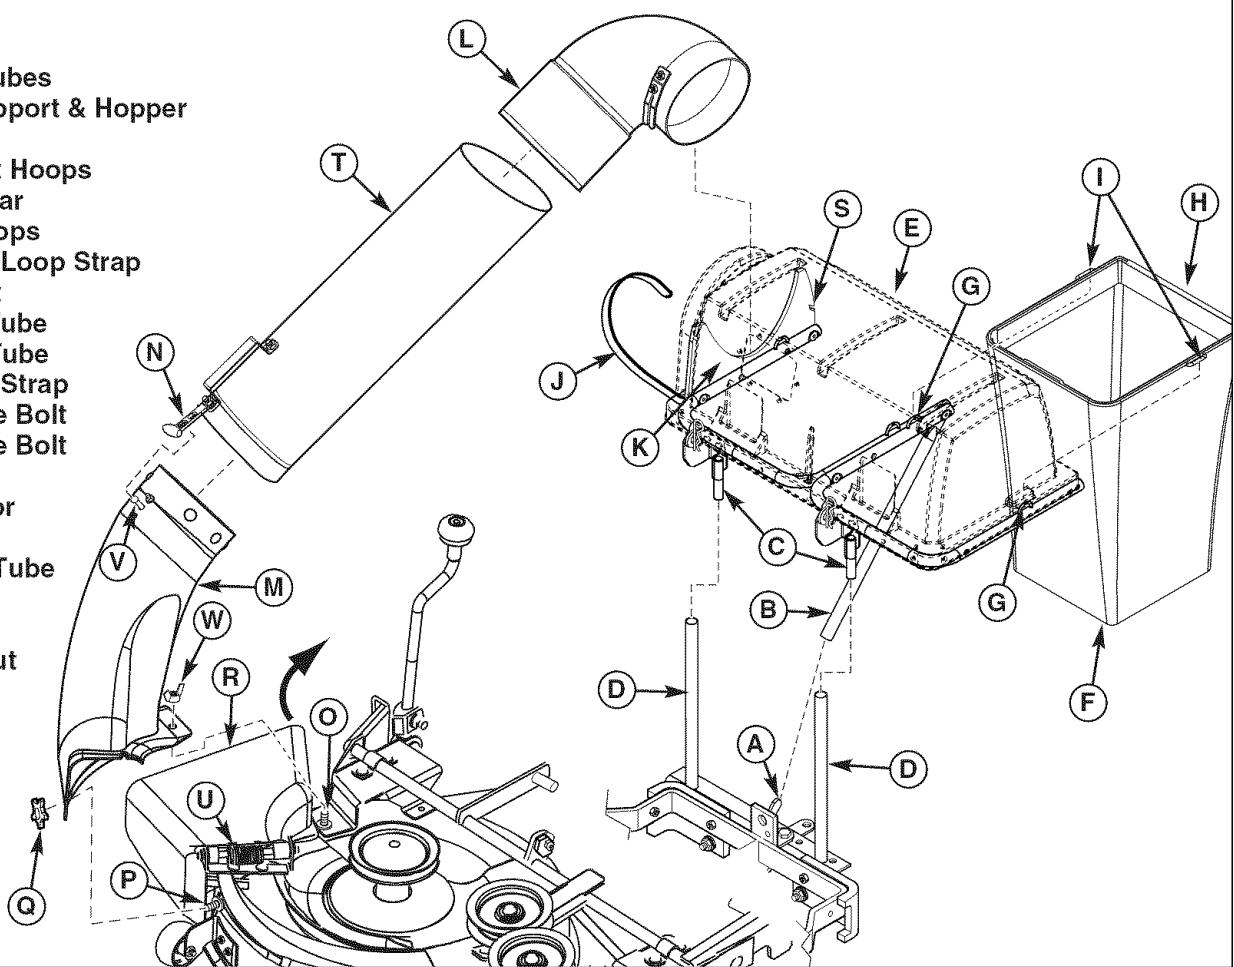

Figure 12. Normal Installation & Removal
1. Mount the bag support & hopper (E, Figure 12) by inserting tube (B) over hitch post (A) and inserting posts (C) into hitch tubes (D).
2. Pivot bag support and hopper (E) up. Install bag (F) with white bar (H) towards the rear. Set bag hoops (I) on bag support hoops (G) as shown. Repeat for other side.
3. Lift discharge deflector up (R). Place the front hole of the lower tube (M) onto carriage bolt (P). Slide front edge of lower tube (M) under hinge bracket (G). Place the rear hole of the lower tube (M) onto carriage bolt (O) as shown. Secure knob (Q) onto carriage bolt (P). Secure wing nut (W) onto carriage bolt (O).
4. Slide middle tube (T) into upper tube (L) and sent into support (K). Secure with rubber loop strap (J) by hooking it into slot (S).
5. Slide middle tube (T) over lower tube (M). Pull strap (N) and place hole completely over pin (V).
1. Unhook rubber loop strap (J, Figure 12) from slot (S).
2. Disconnect rubber strap (N) from pin (V).
3. Remove upper tube (L) & middle tube (T) from support (K) and lower tube (M).
4. Remove wing nut (W) from carriage bolt (O). Remove the knob (Q) from carriage bolt (P). Remove the lower chute (M) from carriage bolt (P) and carriage bolt (O). Remove lower tube (M).